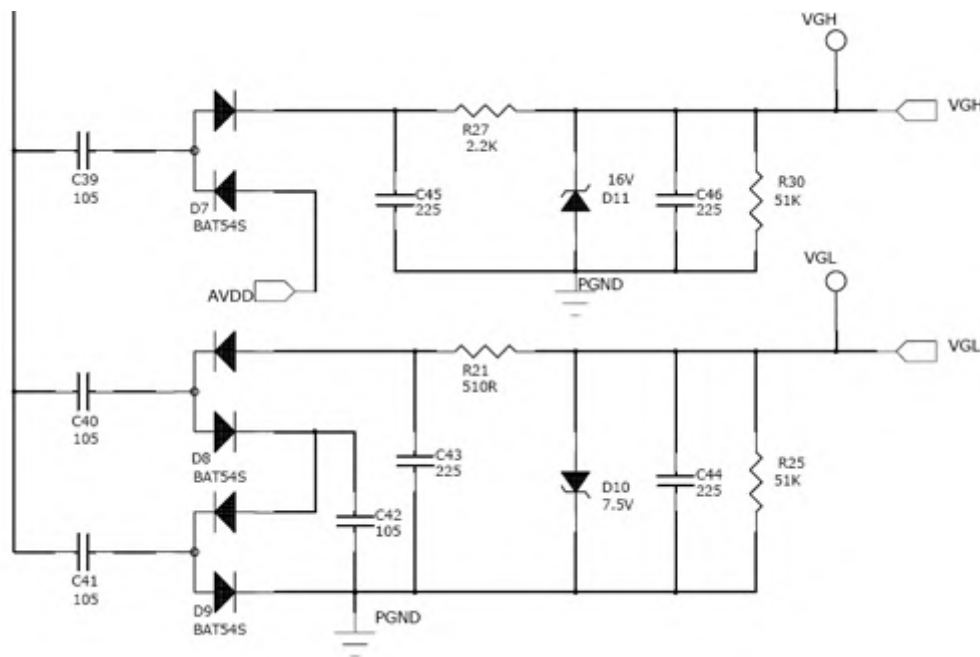

Figure 3.2.10 Doubling circuit
1. Working of display drive circuit needs high voltage, so +5V voltage is doubled, shown in the figure 3.2.10.1: